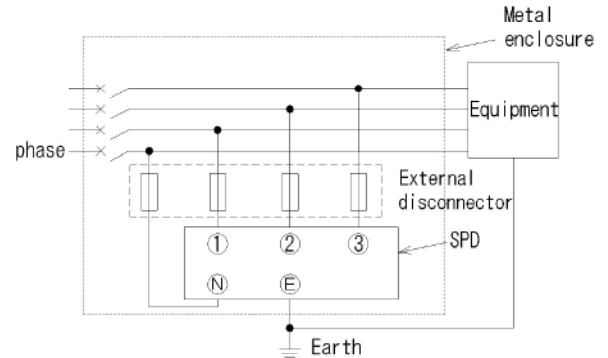

Fig.1 Installation method for SPD
② Install the SPD as shown in Figure 1 and install the external disconnector (fuse) to the primary side of the SPD.
- ① Do not install the SPD on circuits where it is subjected to voltages above specified **Uc. (LT-44T2HT/44T2HTS=AC440V)**
- ② Do not use the SPD above the peak value of MCOV ($U_c \times \sqrt{2} V$), if DC or AC voltage has incomplete wave shape.
- ③ Do not use the SPD in the circuits that are subjected to frequent current surges with a very short interval between them.
- ① Do not expose the SPD to high temperature such as direct sunshine or install adjacent to hot object.